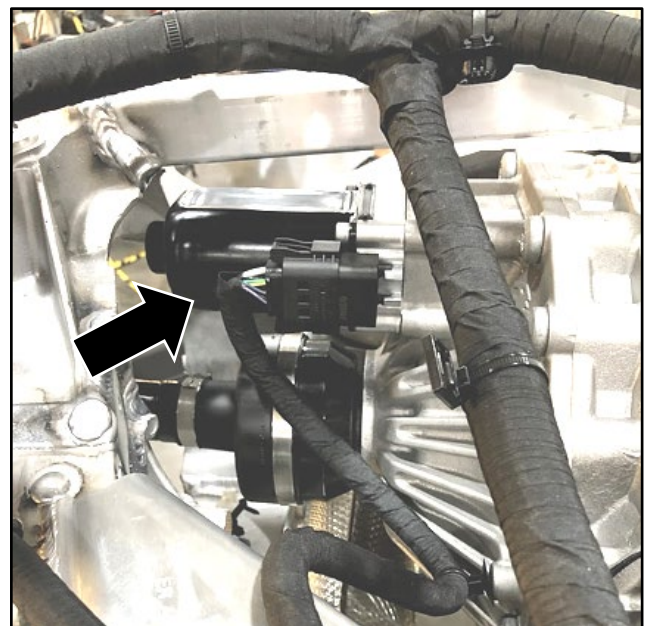

Figure 3
7. If the active-differential wiring loom is in the position shown (refer to Figure 3), do the actions that follow: